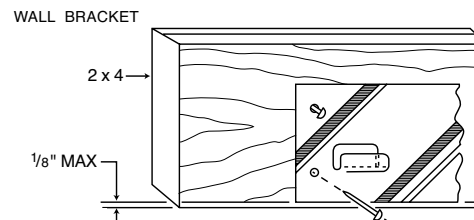

Figure 1
7. Referring to figure 1, mount the metal wall bracket 1/8 inch from the bottom of the upper 2x4 support with five 1-1/2 inch wood screws.